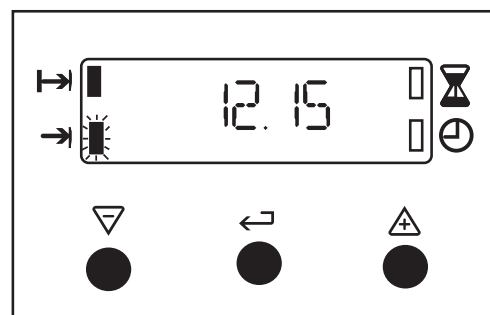

Fig.8.
- v) To set the 'End Time'. Press the Selector Control button until the 'End Time' indicator neon flashes. Press the increase control (+) until the required stop time is displayed, e.g. 12.15 p.m. as Fig. 8. If necessary depress the decrease control (-) until the correct time interval is achieved.